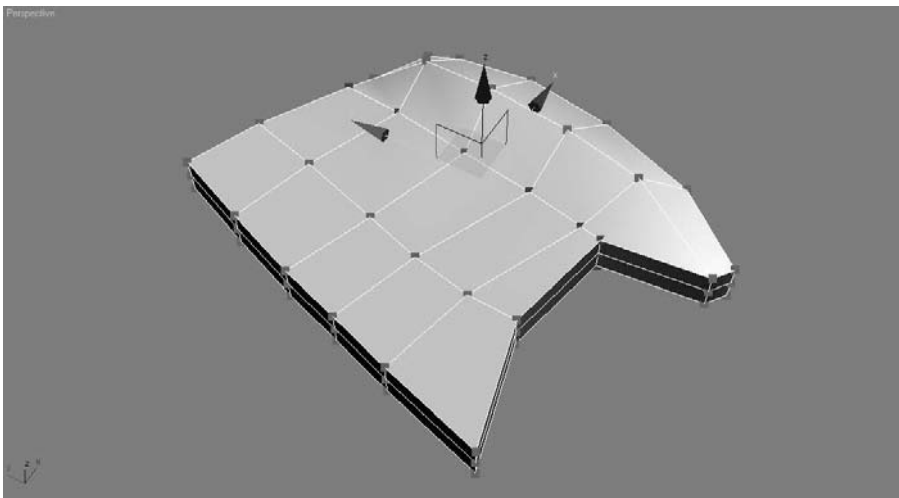

Figure 5.66
9. Select the row shown in Figure 5.66, and move the vertices closer to the tip of the fin to slightly narrow the bulbous end.